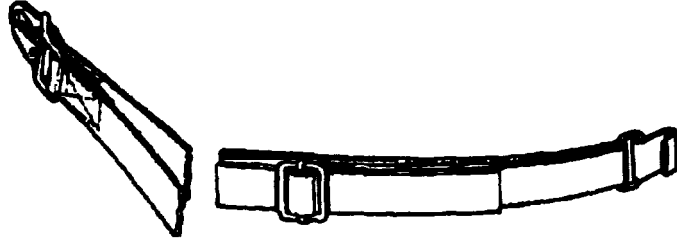
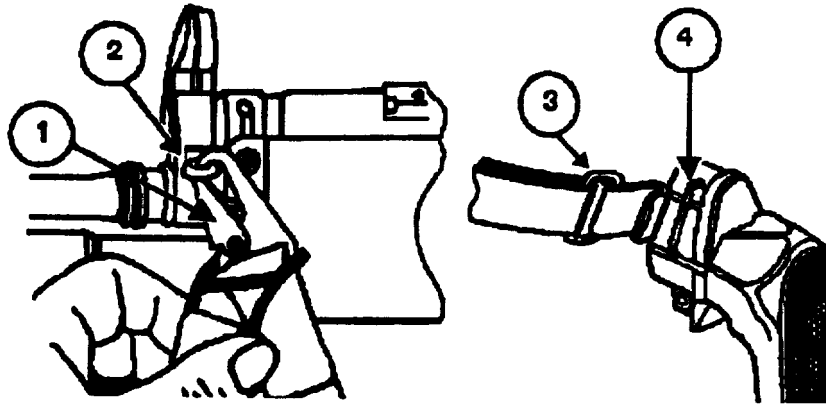

Figure 3-9. Multi-purpose Sling
Figure 3-10. Sling Connection Points
c. Attach the multi-purpose carrying sling (Figure 3-9). Place the carbine hook (1), Figure 3-10, at muzzle end on the eye hook (2) and the sling hook (3) at the buttstock end on the sling connection (4).